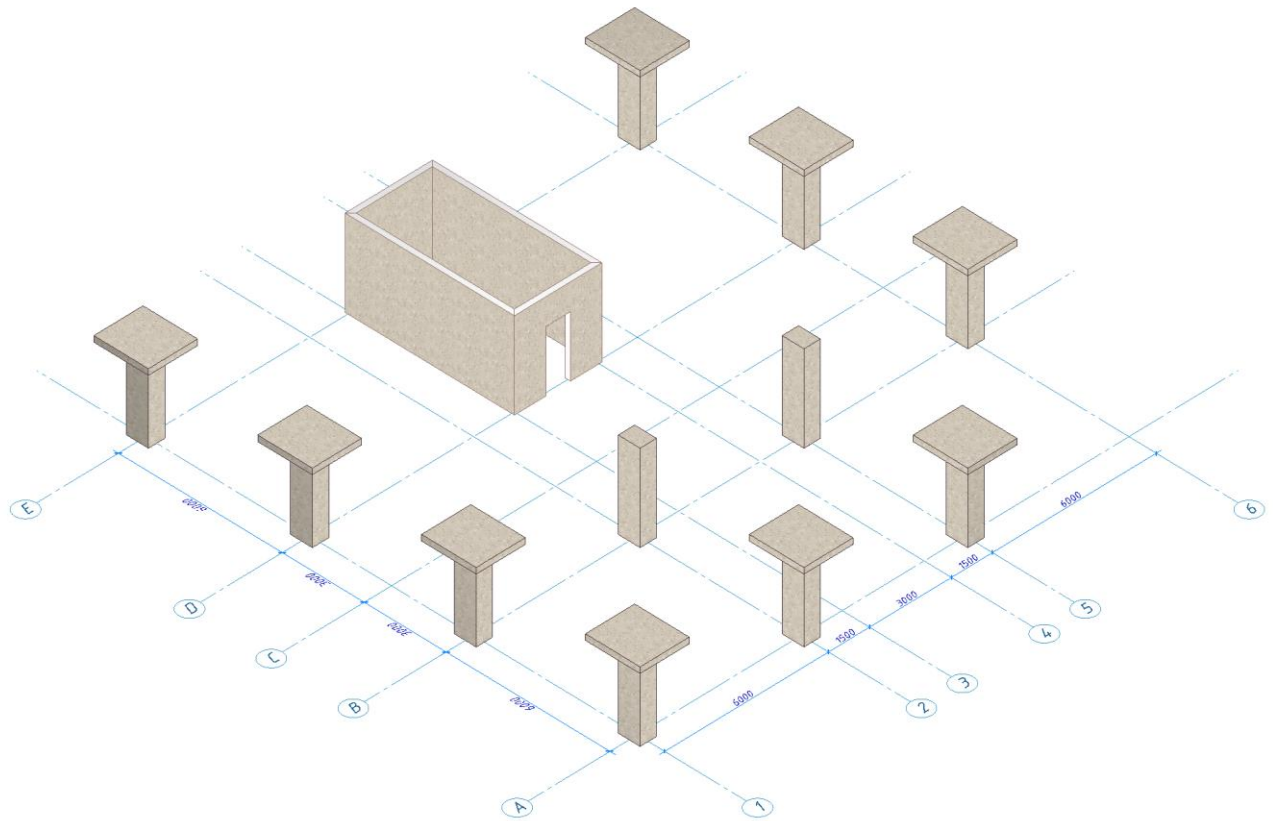

Figure 23.8. Layout for columns and walls
- ⇒ To generate the stiffness core, specify in sequence two points 3E and 4D (see Fig. 23.8).
⇒ Place the opening to the centre of the wall (for the snap option, the wall centre will be denoted with the pink triangle) located along the D line (see Fig. 23.8).